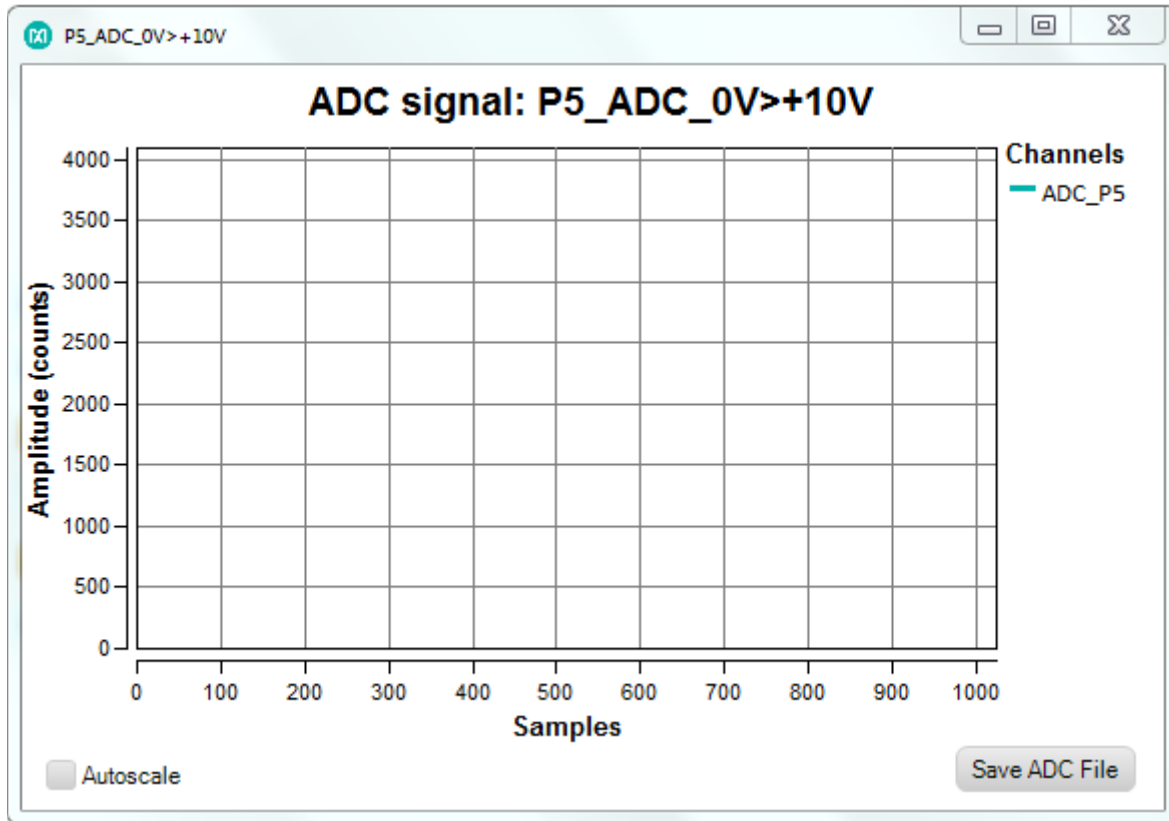

Figure 24. P5_ADC_0>+10V plot window.
- In the drop-down menu at the top right, select **P5_ADC_0>+10V** and click the **Get plot box** button. A plot window opens and shows the analog level on the ADC as shown in **Figure 24**.